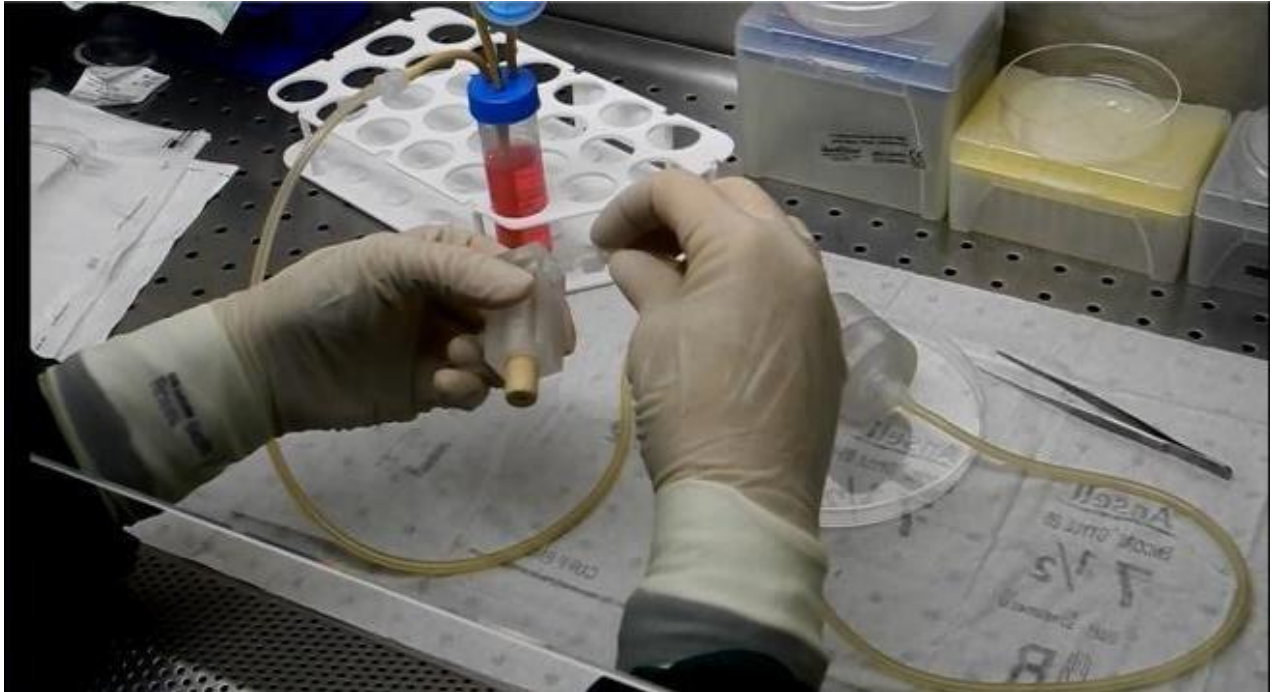

Figure 9
- Connect the other oxygenator tube to the culture chamber outlet on one side and to the de-bubbler on the other side (Fig. 9).